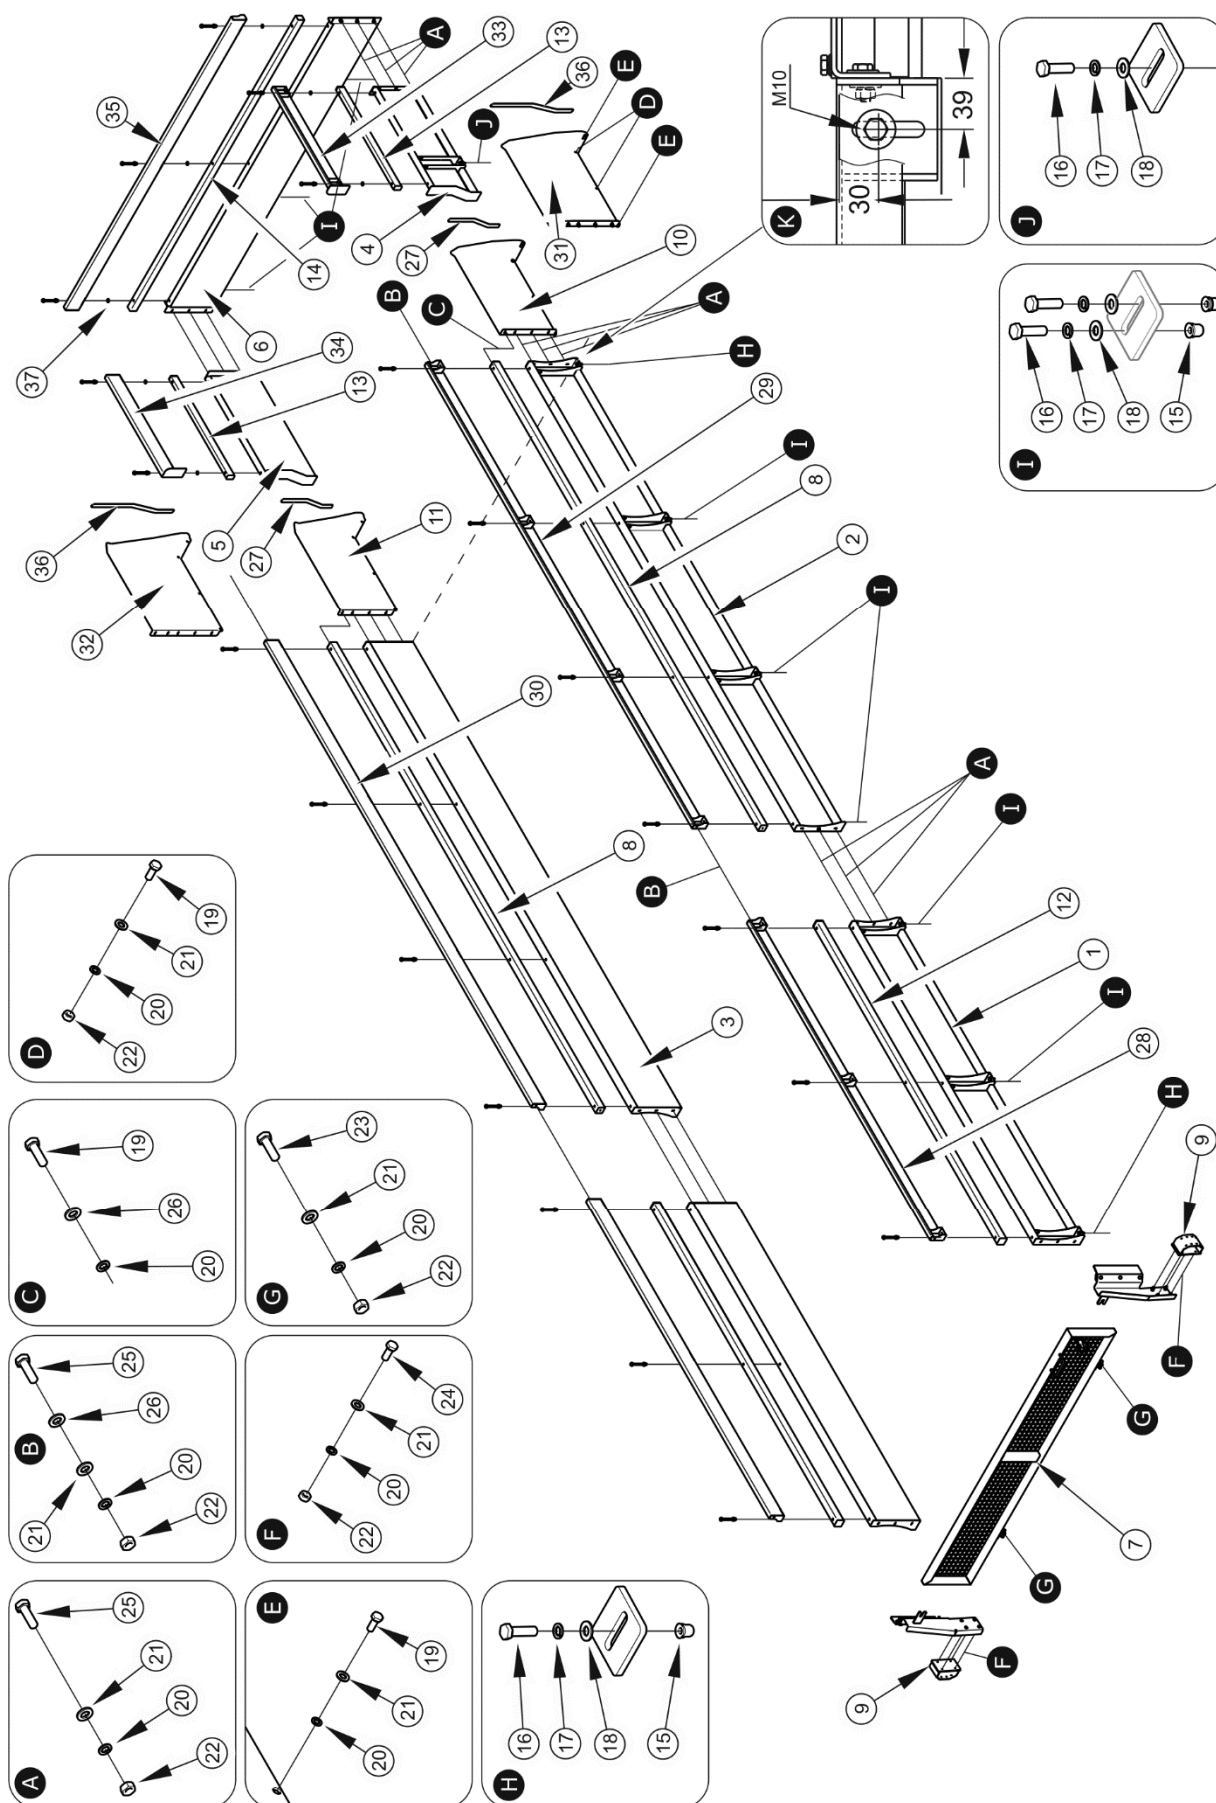
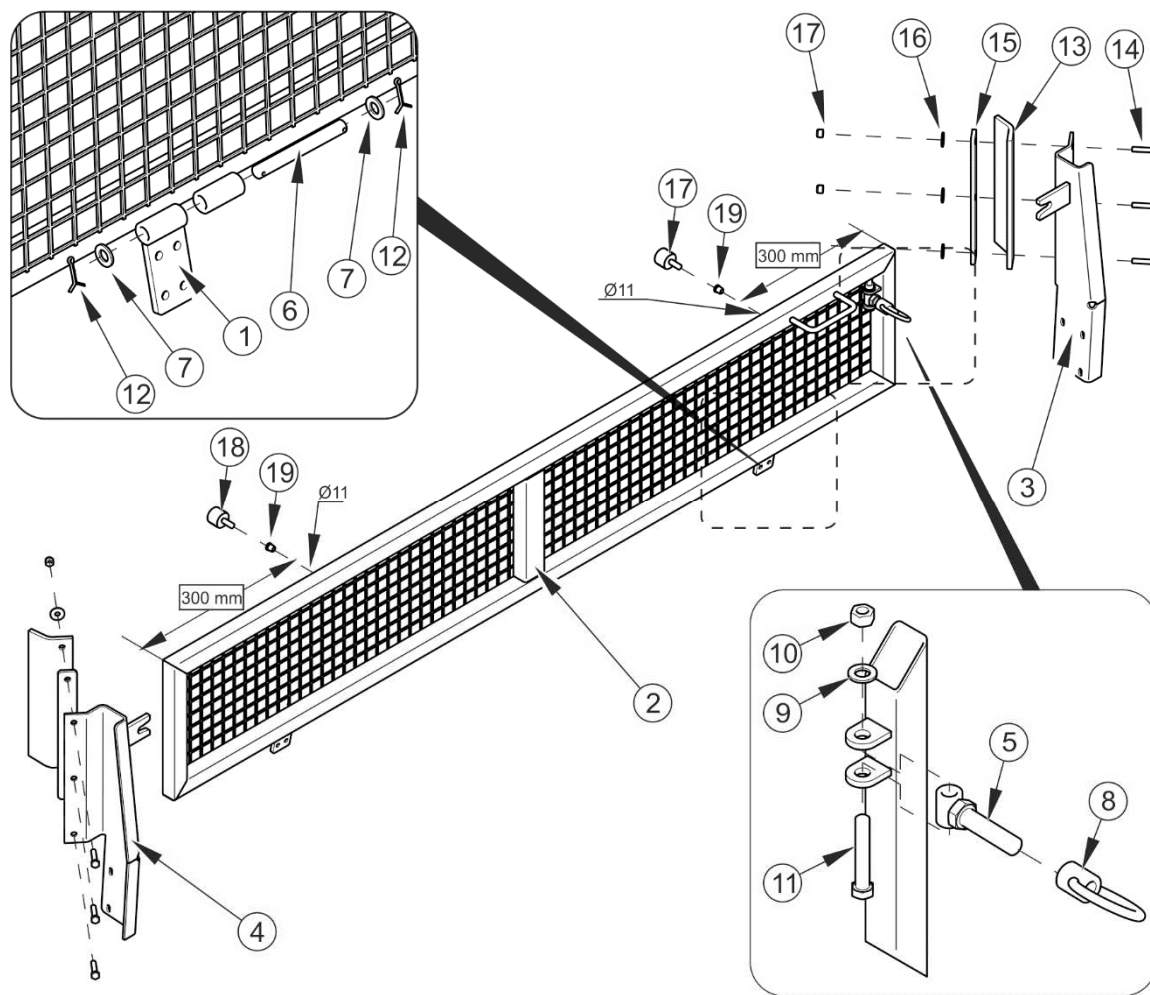

FIGURE A.1 Installation of wall extensions. Marking according to table A.1
FIGURE A.2 Installation of front wall extension. Marking according to table A.2
4. install the left wall extension (item 2- figure A.1). Assume the dotted line as the base line. Make the first hole at the distance of 39mm (detail K– figure A.1),
5. install the side profile (item 8-figure A.1),
6. install the side wall extension, left +100 (item 29-figure A.1) – only (400+100),
7. install the front wall extension (item 1 - figure A.1),
8. install the front profile (item 12 - figure A.1),
9. install the front wall extension +100 (item 28 - figure A.2) – only (400+100),
10. install the left wall extension, rear (item 10 - figure A.1) or the left wall extension, rear + 100 (item 31 - figure A.1),
11. install the gate wall extension, left (item 4 - figure A.1),
12. install the gate profile, side (item 13 - figure A.1),
13. install the gate wall extension, left +100 (item 33- figure A.2) – only (400+100),
15. install the gate wall extension (item 6 - figure A.1),
16. install the gate profile (item 14 - figure A.1),
17. install the gate wall extension +100 (item 35 - figure A.1) – only (400+100),
19. install the right stake (item 4 - figure A.2), the left stake (item 3 - figure A.2) and slides (item 9 - figure A.1),
20. make Ø11 holes in the wall extension frame (item 2 - figure A.2) at the distance of 300 mm from the edge. Install blind rivet nuts and absorbers in this place (item 18 and 19 - figure A.2),
21. attach the wall extension leak stoppers (item 13 - figure A.2) to the stakes so that they press against the load box walls,
22. install the wall extension frame (item 2 - figure A.4) using hinges (item 1 - figure A.2)